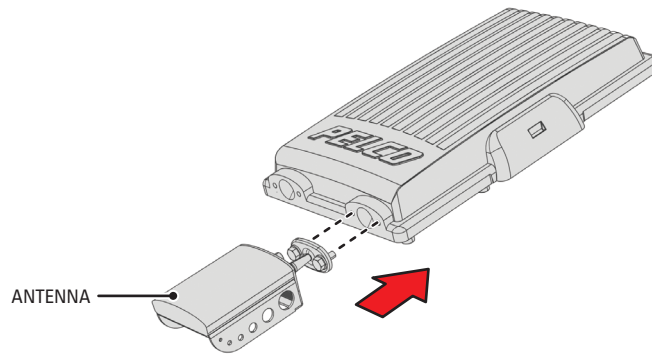

Figure 10. Attaching the Integrated Antenna
- a. Attach the integrated antenna to the EW5001 (refer to Figure 10). Do not tighten the bolts until you align the integrated antenna (refer to *Antenna Alignment* on page 26).